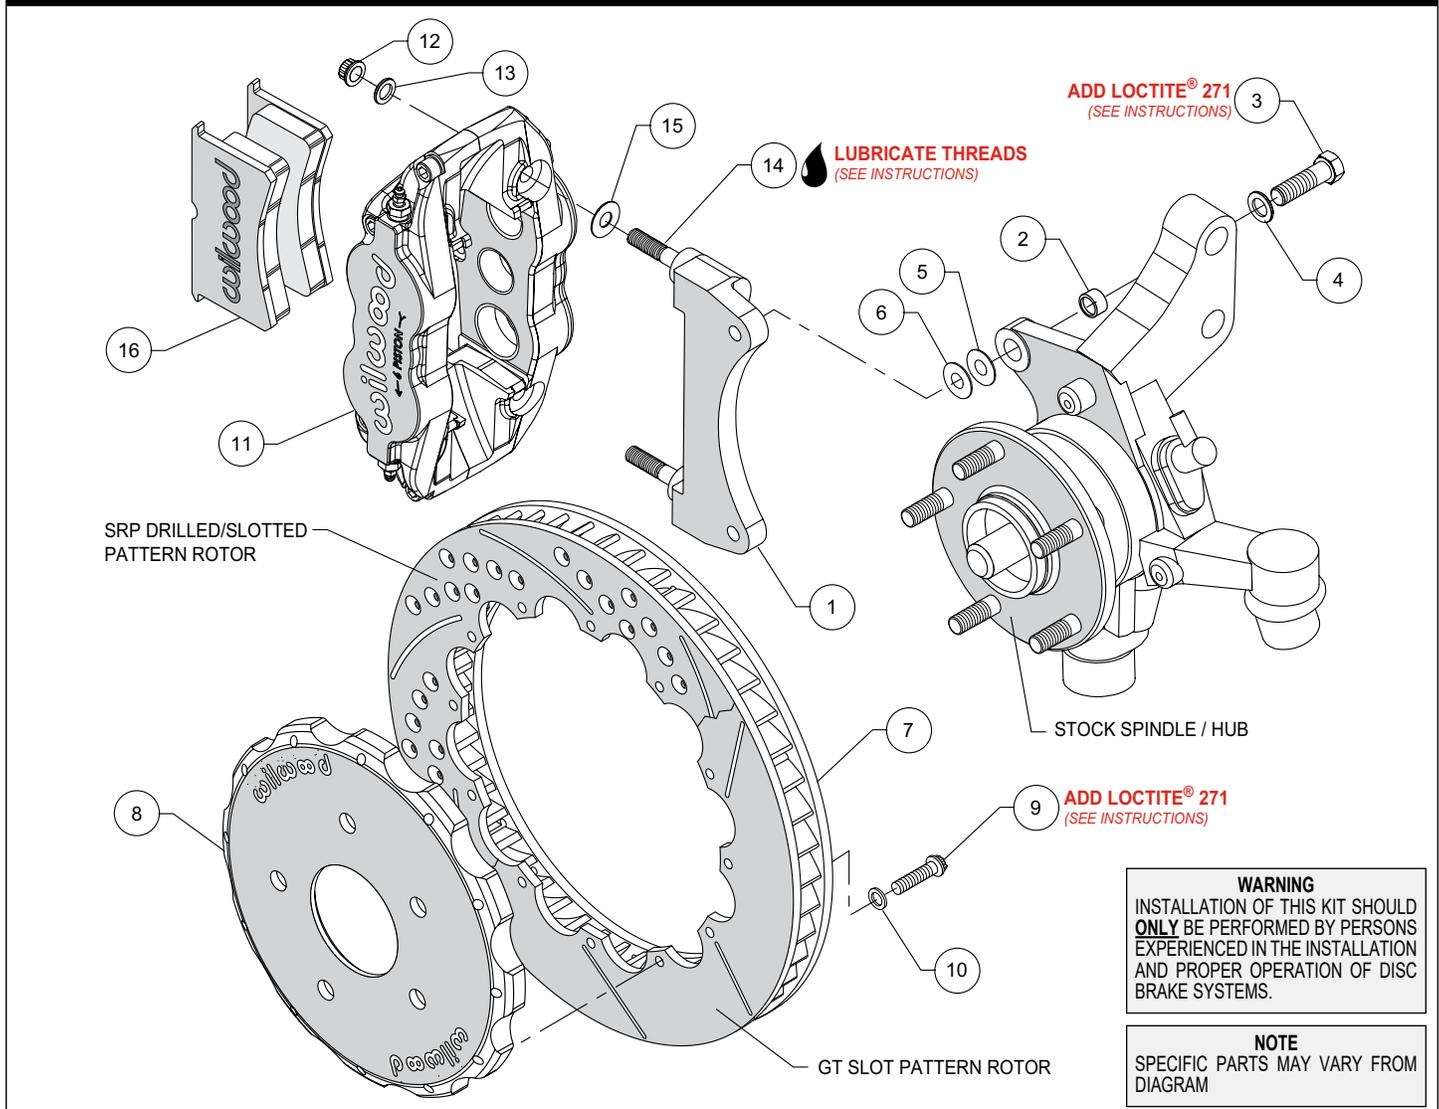

Figure 1. Typical Installation Configuration
NOTE: Numbers in parenthesis refer to the parts list and Figure 1 on the preceding pages.
- The caliper mounting bracket assembly (1) should be installed first with clean, dry threads on the mounting bolts. Install the bracket on the outboard side of the spindle by sliding bolt (3) through washer (4), and through sleeve (2) which will be inserted into the spindle “ears” from the back side of spindle. Place two shim washers (6) between the bracket (1) and the spindle (see Figure 1). The bracket must tighten squarely against the side of the spindle body. Inspect for interference from casting irregularities, machining ridges, burrs, etc. Use two thin shims (6) between the bracket (1) and spindle during initial trial fitting.
- NOTE:** This kit contains distinct right and left hand calipers that must be mounted in a specific direction, as described below. Lubricate the caliper mounting studs (14) with lightweight oil. Initially place two .035” thick shims (15) on each stud as shown in Figure 1. Mount the caliper (11) onto the bracket (1) using lock nuts (12) and washers (13), Figure 1. Ensure that the caliper is mounted so that the largest pistons are at the rotor exit end of the caliper, in relation to the direction of rotor rotation. Temporarily tighten the lock nuts and view the rotor through the top opening of the caliper. The rotor should be centered in the caliper. If not, adjust by adding or subtracting shims (5 and/or 6) between the bracket and the upright. Always use the same amount of shims on each of the two mounting bolts.
- Remove the caliper center bridge pad retainer bolt, nut, and tube from the caliper. Slide the brake pads (16) into place. They should install easily without interference. Check that the outside radius of the brake pad is tangent with the outside diameter of the rotor face. Add or subtract shims (15) between the caliper and mount bracket to gain the proper alignment. Reinstall the center bridge pad retainer tube, bolt, and locknut. The locknut should be snug without play in the bolt or tube. Be cautious not to over tighten.
- Once all clearances have been checked, remove the wheel, caliper, hat, and rotor from the spindle and hub. Secure the caliper mounting bracket (1) to the spindle with bolt (3) using red *Loctite*® 271. Torque bolt (3) to 42 ft-lb. Reinstall the hat and rotor assembly and again use lug nuts to hold it in place. Reinstall the caliper (11), torque the caliper nuts (12) to 30 ft-lb.